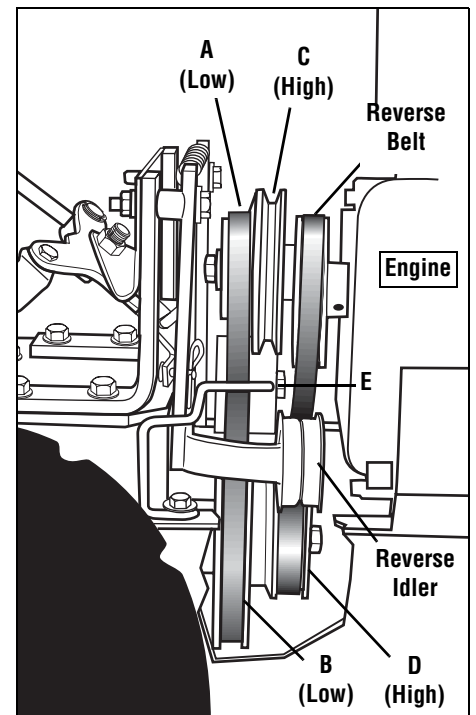
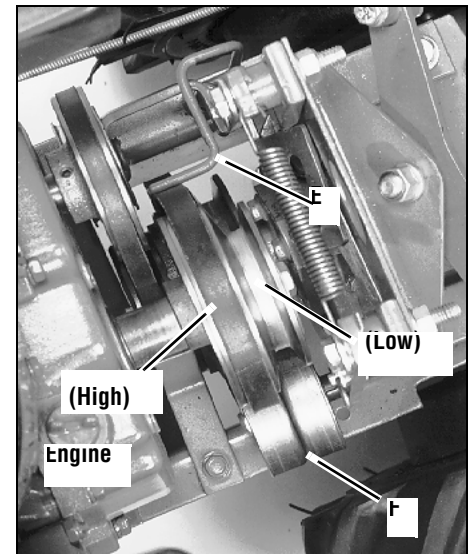

Figure 4-10: Right-side view of engine and transmission pulleys (engine is at right-side of view).
Figure 4-11: Top view of forward drive pulley system (engine is at left-side of view).
4. From beneath the tiller, move the forward drive belt out of the transmission low speed groove (B, Figure 4-10) and into the high speed groove (D).
5. Pull upward on the belt to remove any slack and slip the belt out of the engine drive pulley low speed groove (A, Figure 4-10) and into the high speed groove (C).
6. Check that the belt is within the forward belt guide (E, Figures 4-10 and 4-11) on the right-side of the unit and is within the forward idler (F, Figure 4-11) on the left-side. Be sure that the belt is situated in the center grooves (C and D, Figure 4-10) of the engine (upper) and transmission (lower) pulleys.
4. From beneath the tiller, move the forward drive belt out of the transmission pulley high speed groove (D, Figure 4-10) and into the low speed groove (B).
5. Pull upward on the belt to remove any slack and slip the belt out of the engine drive pulley high speed groove (C, Figure 4-10) and into the low speed groove (A).
6. Check that the belt is within the forward belt guide (E, Figures 4-10 and 4-11) on the right-side of the unit and is within the forward idler (F, Figure 4-11) on the left-side. Be sure that the belt is situated in the rear grooves (A and B, Figure 4-10) of the engine (upper) and transmission (lower) pulleys.